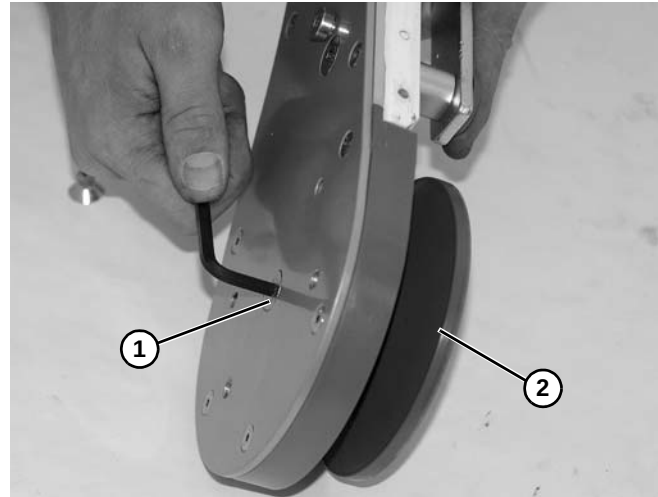

Figure 71
3. Remove flat head screw (**Figure 71, item 1**) and remove idler pulley (**Figure 71, item 2**) from idler head plate assembly.